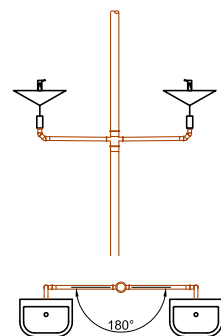

Figure 8
- The larger connection line is to be connected to the downpipe below the smaller connection line as shown in Fig. 8.